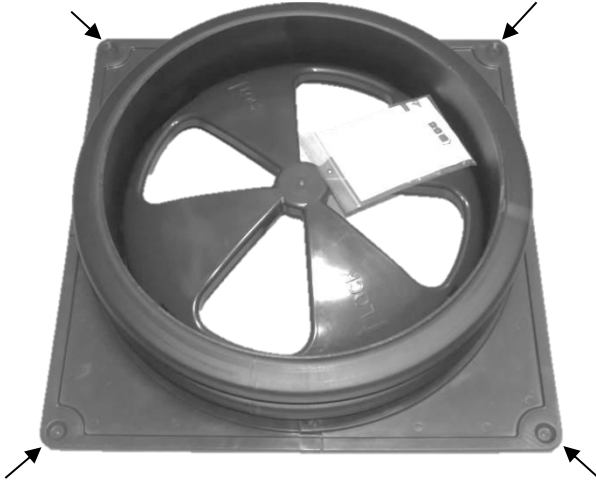

Figure 16: Mounting Base Flange
13.) Drill (4) 5/32" diameter holes through the four corners of the base flange (Fig. 16) at least 2" deep into the tank. If the tank is made of concrete, use a carbide tip masonry bit.
14.) Fasten the base flange to the tank using four (4) provided 3/16" X 1 3/4" blue masonry screws (Fig 16).